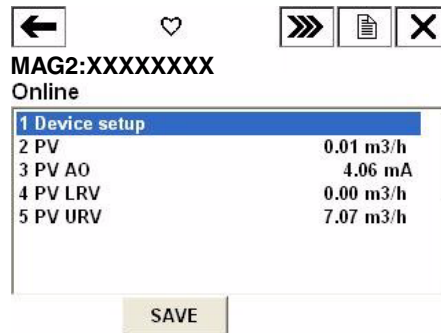

Figure 62. Online Menu
Once the setting and wiring connections are correct, the HART Communicator's display shows an online menu as shown in Figure 62 and a HART mark flickers in the upper right hand corner of the display.
If the display is not as shown in Figure 62 but as shown in Figure 63 below, no communications are being made. Recheck the HART Communicator connections and the transmitter settings.
1. Select “1. Device setup” from online menu 1 (Figure 62).